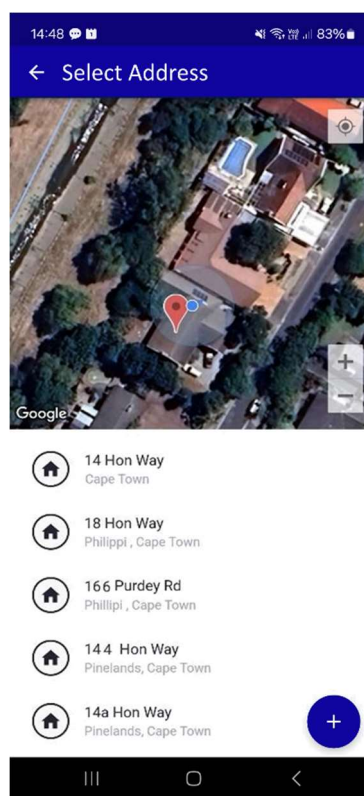

Figure A5 Select address
13. The app should connect to the server and obtain a list of addresses corresponding to your GPS co-ordinates (**Figure A5**). (You might need to switch on your phone GPS and allow the app to use your location services.)